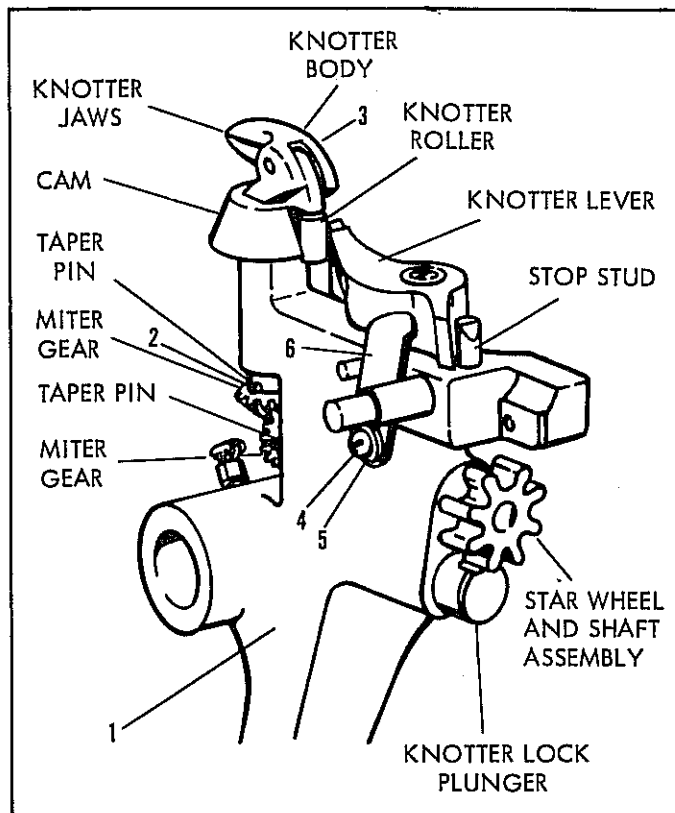
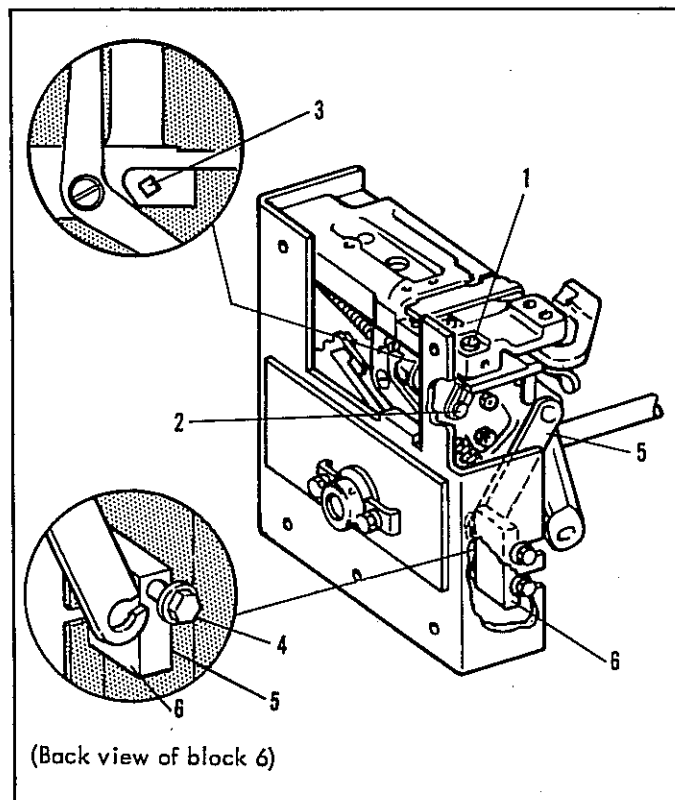

Figure 43. Knotter Timing
Figure 44. Housing Assembly
KNOTTER TIMING. Knotter is timed correctly when the two taper pins (figure 43) in the miter gears are parallel to each other, with knotter roller at bottom of cam, and knotter jaws are pointing straight ahead. Observe position of teeth on star wheel and shaft assembly. Star wheel contains seven uniform teeth and one slightly beveled. When timed properly, beveled tooth will be slightly to right of center line at 5 o'clock as shown in figure 43. If beveled tooth is not in correct position, remove taper pin and miter gear, located at end of star wheel and shaft assembly, and time correctly. It is possible to get knotter back in time without removing knotter head assembly from tying machine. Insert a screw driver between knotter lever and stop stud and pry knotter lever open so that the knotter may be turned back into position. If knotter holds loops of knot and fails to release after tying cycle, readjust knotter release in accordance with instructions in this section of the manual.
3. Remove screws (1 and 2, figure 44) and stringholder assembly from tying machine.
4. Loosen setscrew (3, figure 44) and screw (4, figure 44) securing knotter pivot assembly (5, figure 44) to mounting block. Slip knotter pivot assembly from mounting block and remove knotter head assembly (1, figure 43) from tying machine.
5. Remove taper pin (2, figure 43) securing knotter body assembly (3) in knotter head assembly.
6. Position a new (or repaired) knotter body assembly in the head assembly and secure with taper pin (2).
Check the condition of the two flat springs (6, figure 43), and replace if broken or weak.
7. Replace knotter head assembly in tying machine and secure pivot assembly to mounting block. Tighten setscrew (3, figure 44).
8. Replace stringholder assembly and secure with screws (1 and 2, figure 44).
2. Remove screw (4, figure 43), flat washer (5), knotter flat springs (6) from knotter head assembly.
2. Remove screws, nameplate, switch box cover (64, figure 44), and gasket from switch box assembly (65).
3. Pull switch heater (67) out of power switch (66).
4. Slide new switch heater (67) into power switch (66).
5. Position gasket, switch box cover (64), and nameplate over power switch (66) and secure with screws.
3. Remove screws securing power switch (66) to switch box assembly (65).
4. Loosen screws connecting electric power cord assembly (63) and electric power cord assembly (73) wire leads to power switch (66).
5. Connect electric power cord assembly (63) and electric power cord (73) wire leads to new power switch (66) in accordance with wiring instructions in this manual.
6. Secure power switch (66) to switch box assembly with screws.
7. Position gasket, switch box cover (64), and nameplate over power switch (66) and secure with screws.
3. Remove screws and junction box cover (61, figure 44) from junction box assembly (62).
4. Loosen screws connecting electric cord assembly (59), power cord assembly (58), electric assembly cord (63) electric assembly cord (68), electric assembly cord (70) wire leads, and terminal block jumper leads to relay assembly (60).
5. Remove screw relay assembly (60), washer, and nut from junction box assembly (62).
6. Secure new relay assembly (60) to junction box assembly (62) with screw, washer, and nut.
7. Connect electric cord assembly (70), electric cord assembly (68) electric cord assembly (63), power cord assembly (58), electric cord assembly (59) wire leads, and terminal block jumper leads to new relay assembly (60) in accordance with wiring instructions in this manual.
8. Position junction box cover (61) over junction box assembly (62) and secure with screws.